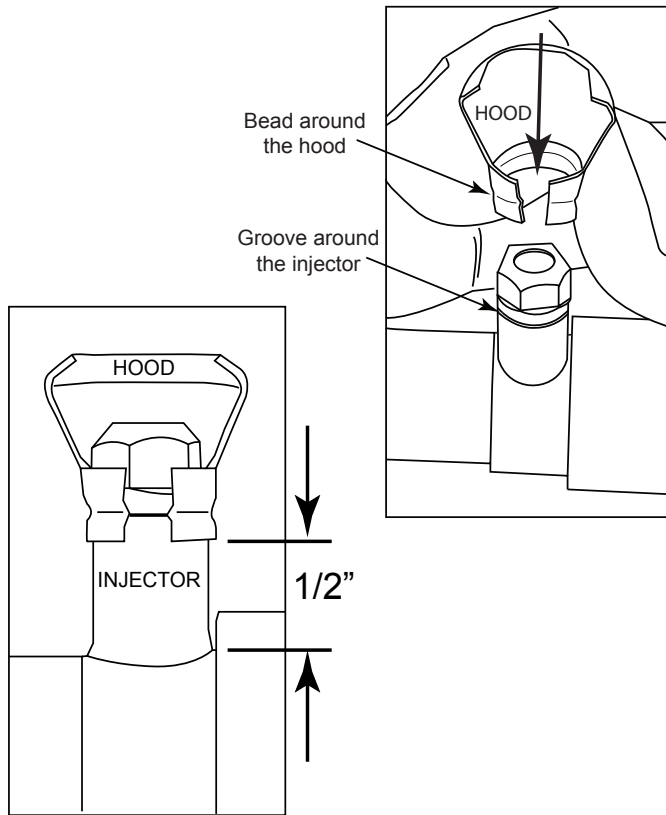
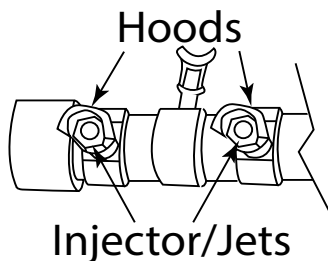

Fig. 8 Installing injector hoods.
Fig. 9 Correct placement of injector hoods.
Install the hood/rain shields over top of each injector of the pro brass burner by sliding it into position. Use the bead in the lower section of the hood, and align it with the groove in the injector, until it snaps into place. See Fig. 8. Rotate the hood to ensure it is protecting the injector opening from the elements (i.e. rain, dirt or media). See Fig. 9 for proper alignment. **Note:** If there is no detent in the injector, ensure the hood is 1/2" from the base of the injector to the bottom edge of the hood.
**CAUTION:** It is imperative the "open side" of all hoods covering the injectors/jets are installed facing downward. Because the hoods can be removed or turned, the orientation is extremely important to protect the injector or jets from dust, dirt or rain. See detail in Fig. 8.